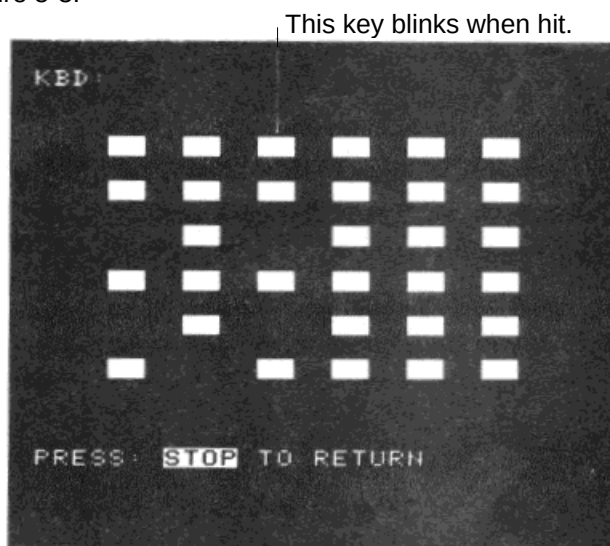

Figure 5-4. 318 Keyboard test display
2. When an error message appears, press the START key. The Diagnostics menu will be displayed on the screen. Press 0 to run the KBD test. Refer to Figure 5-4.